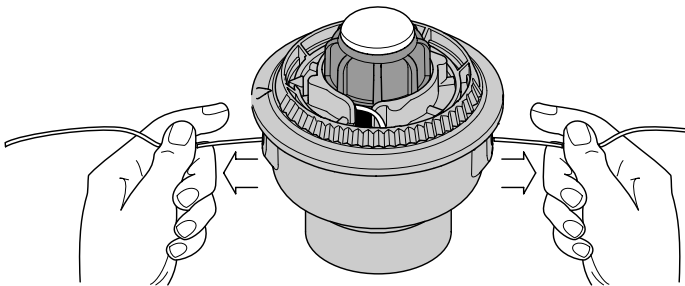

Fig. 22
9. If winding the line becomes difficult or the line jams, pull the ends of the line from the spool (Fig. 22). Continue winding the inner reel counterclockwise.
4. Hold the inner reel in place and install the bump knob, spring and foam seal. Press down and turn the bump knob clockwise. Grasp the ends and pull firmly to release the line from the holding slots in the inner reel (Fig. 22).
If the SpeedSpool® does not release line correctly, pull the ends of the line firmly from the spool (Fig. 22). If this does not release line, follow the **Cleaning the SpeedSpool®** instructions.